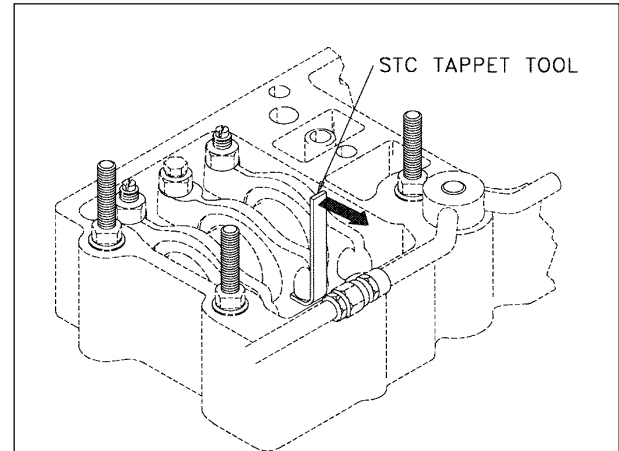

Figure 3A-2
2. Set the injector rocker arm adjusting screw to 5-6 lbin. Cummins injector torque wrench (P/N 3376592) may be used to set the torque. Remove tool before barring the engine to the next position as indicated in the setting chart (Figure 3A-1).